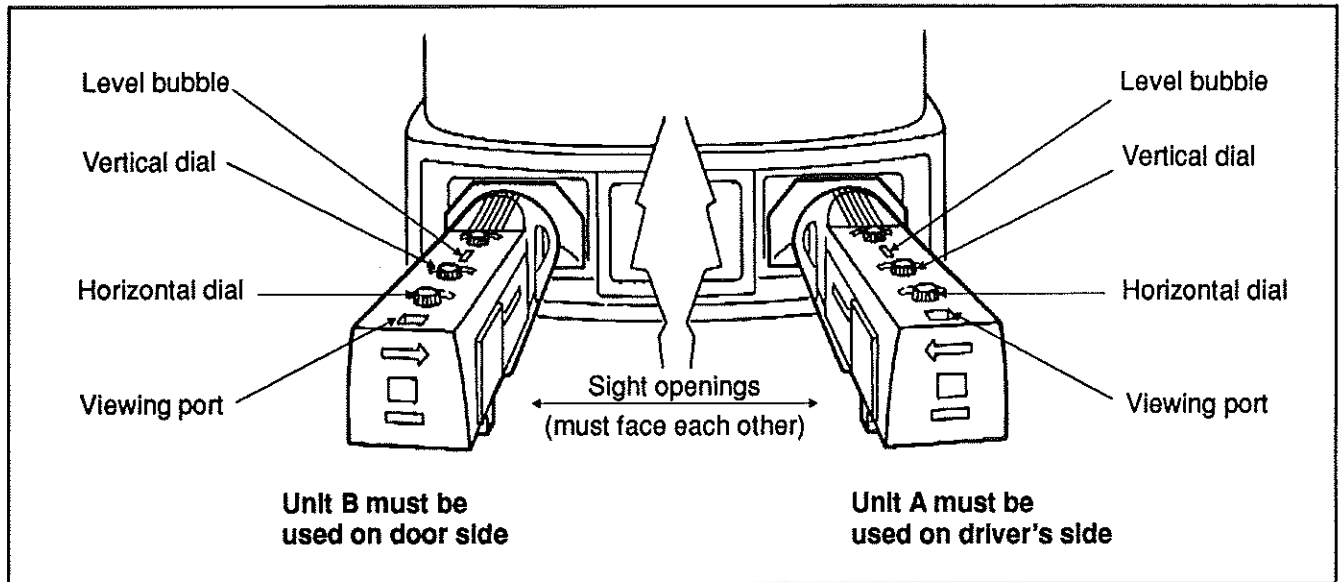

Fig. 45
2. Install aligners on headlights (unit A on driver's side and unit B on other side with the sight openings facing each other), by pushing the handle forward to secure rubber suction disc, then pull handle until it locks. Refer to figure 45.